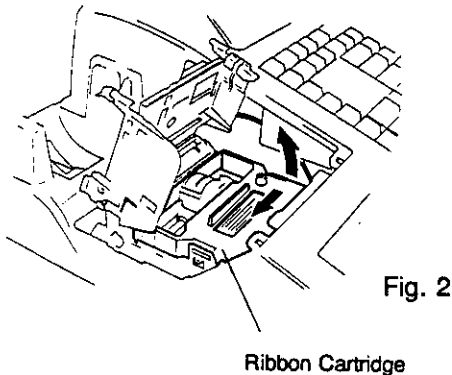

Fig. 2
3. Lift up the right edge of the old Ribbon Cartridge with pushing the cartridge leftward. (Fig. 2)